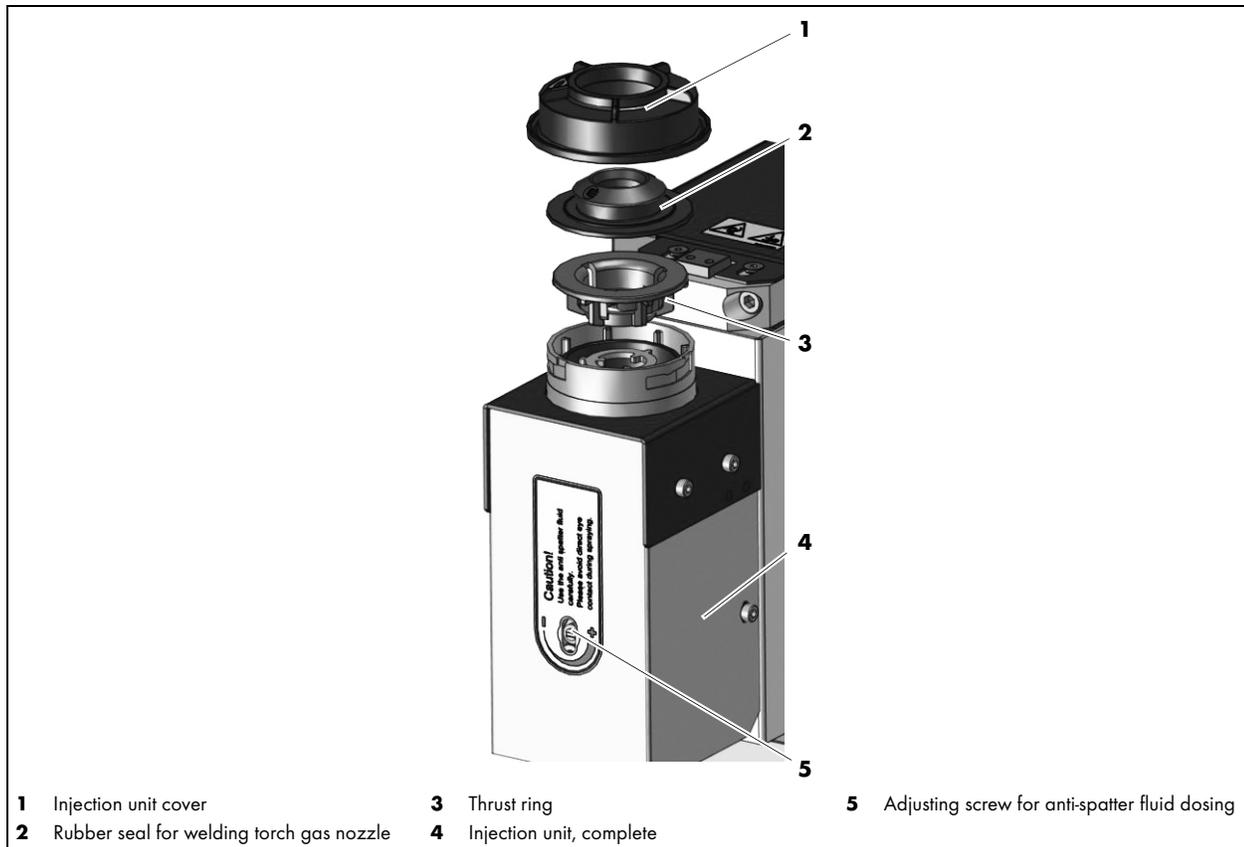

Fig. 10 Injection unit
□ Fig. 10 Injection unit on page EN-18